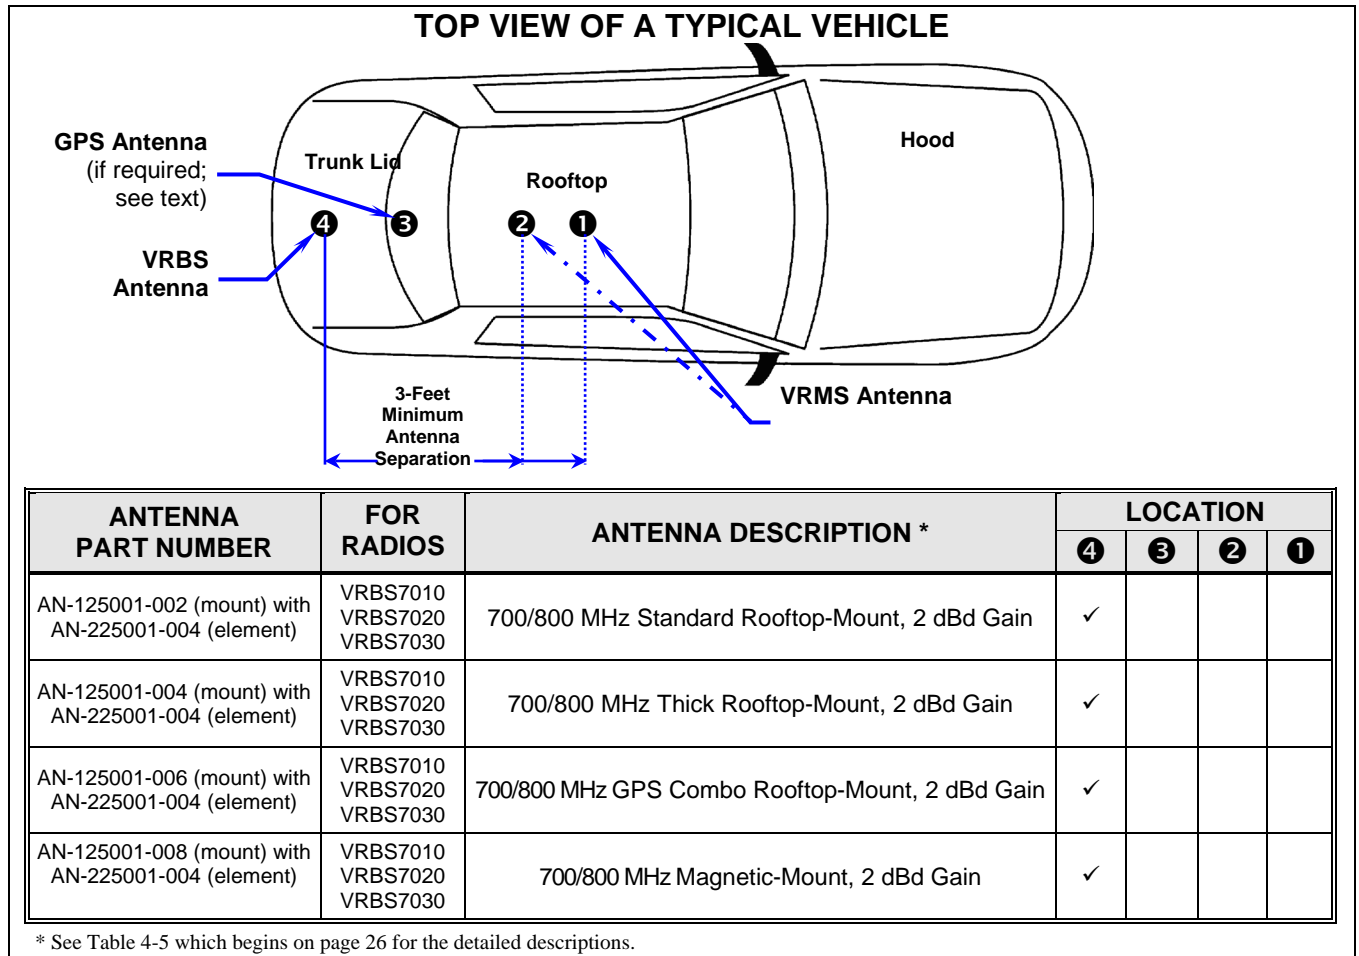

Figure 7-3: Required VRBS7010/VRBS7020/VRBS7030 Antenna Mounting Locations with Antenna Part Numbers
At this time, review all information presented in the REGULATORY AND SAFETY INFORMATION section of this manual (begins on page 6). Both transmit-receive antennas must be installed in accordance with the guidelines presented in the REGULATORY AND SAFETY INFORMATION section. In order to reduce human exposure to radio frequency (RF) electromagnetic energy during transmit mode, use Table 1-1/Table 1-2 and Table 1-3, and Figure 7-1/Figure 7-2 and Figure 7-3 to determine the best possible antenna mounting locations
Antennas must be mounted in locations on the vehicle as illustrated and described in this section. Also, see Table 4-5 for additional information. Always follow manufacturer's instructions when mounting an antenna. References to locations ❶ through ❹ apply to the locations illustrated in Figure 7-1 through Figure 7-3.
The VRMS and the VRBS transmit-receive antennas must be located at least three (3) feet (0.92 meters) apart. See Figure 7-1 through Figure 7-3. The radio-end of each antenna cable must be labeled so each cable is connected to the correct radio.